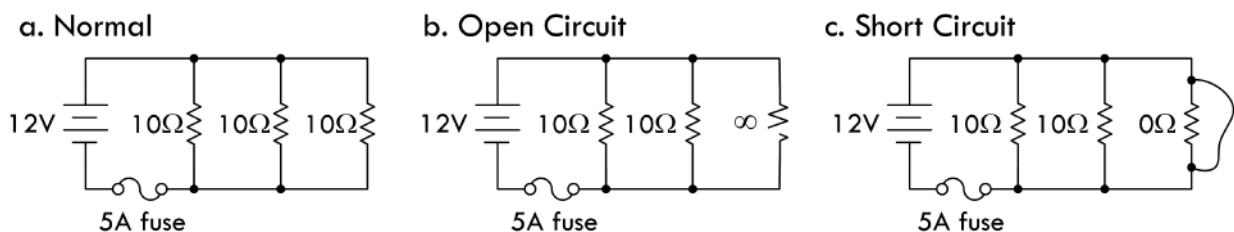

FIGURE 2.61
**Example 2:** In the parallel circuit in Fig. 2.61, determine the total current flow in the normal circuit (a), the open circuit (b), and the current flow in the short circuit (c). Assume the internal resistance of the battery is  $0.2\Omega$  below 3 A, but goes to  $2\Omega$  during a short-circuit condition.